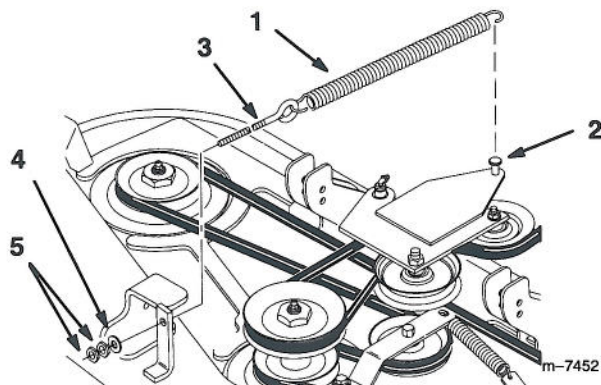

Figure 4
5. Hook spring over pin on idler plate and loosely mount to mower with eye bolt, 3/8" washer and (2) 3/8" jam nuts (Fig. 4).